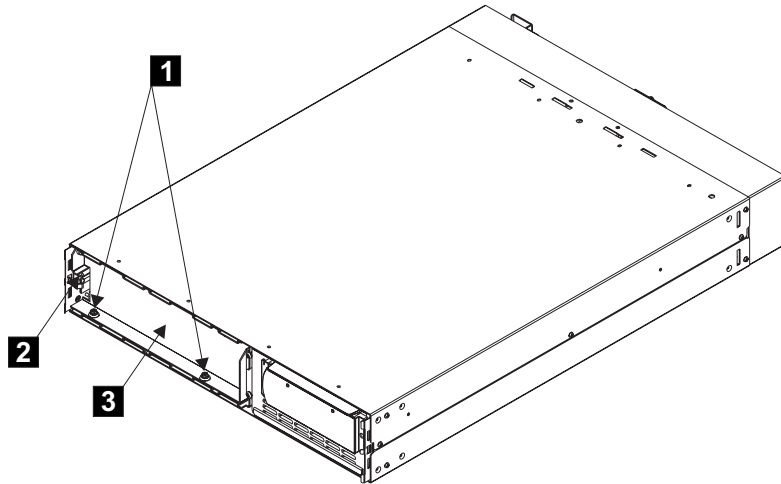

Figure 165. Remove the battery retaining bracket
- c. Remove the two bolts **1** and additional nut **2** on the left side of the bracket. See Figure 165 on page 379.